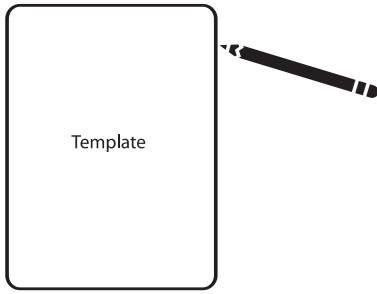

Figure 1
3. With these measurement requirements in mind, place the template against the inside edge of one of the studs. (Do not "center" the template if your studs are wider than 14 1/2"–15 1/2".) Use a level to make certain the template is straight and plumb. The outside edge of the template will be your exact cutout size. [Figure 1]